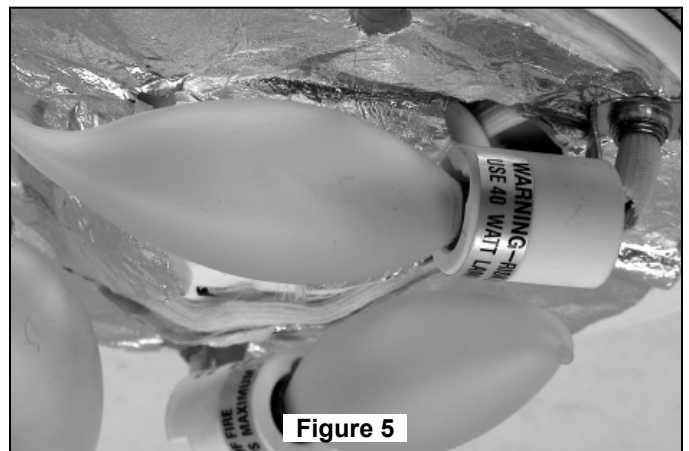

Figure 5
8. Assemble Upper Housing cover and fasten to Downrod Support with three screws (with spring washers) provided. (Figure 5)
10. Reinstall the Hanger Ball (Figure 5) on the Downrod as follows. Route the three 80" wires through the Hanger Ball. Position the Pin through the two holes in the Downrod and align the Hanger Ball so the Pin is captured in the groove in the top of the Hanger Ball. Pull the Hanger Ball up tight against the pin. **Securely tighten the setscrew in the Hanger Ball. A loose setscrew could create fan wobble.**
5. Install three Candelabra Bulbs (included - 40 watts max) in each of the sockets on the Downlight Socket Plate Assembly. (Figure 5)